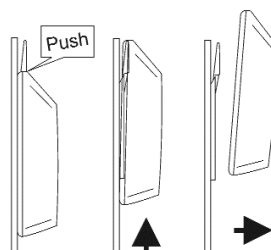

Fig. 4
4. To release the display press lightly on the bracket tab and slide it upwards (Fig.4).